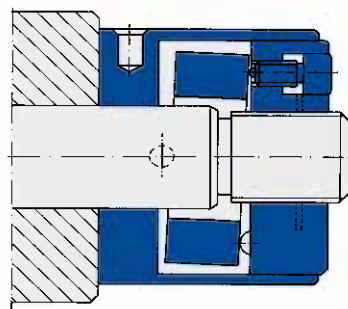

Fig. 1
1. Screw the clamping nut manually until it makes contact with the end face (Fig. 1). Tighten the fixing screws and lock the clamping nut to the thread.